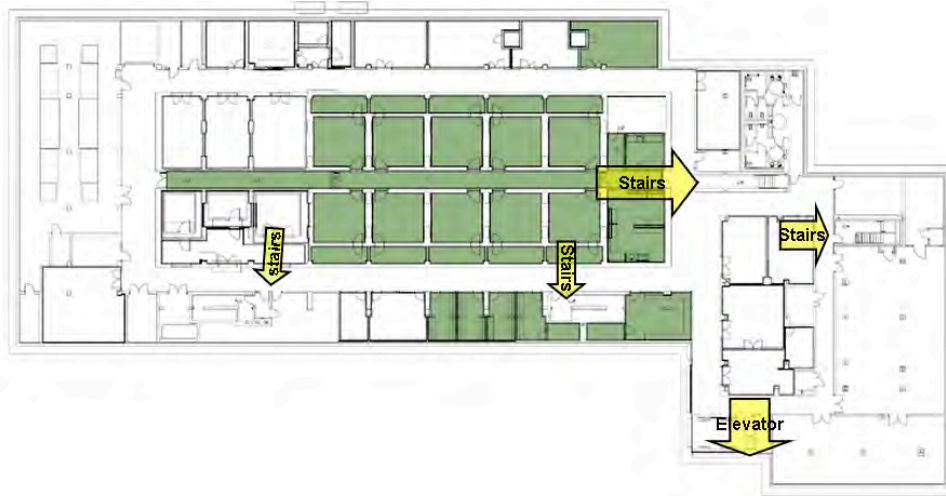

Figure 6: Evacuation routes, LISE basement.
- 22.2 The NFPA “fire diamond” (Fig. 6) is a visual notification standard maintained by the US Fire Protection Association.